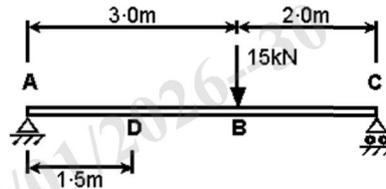

Fig. 1
- f) For the beam shown in Fig.1, draw the shear force and bending moment diagrams.